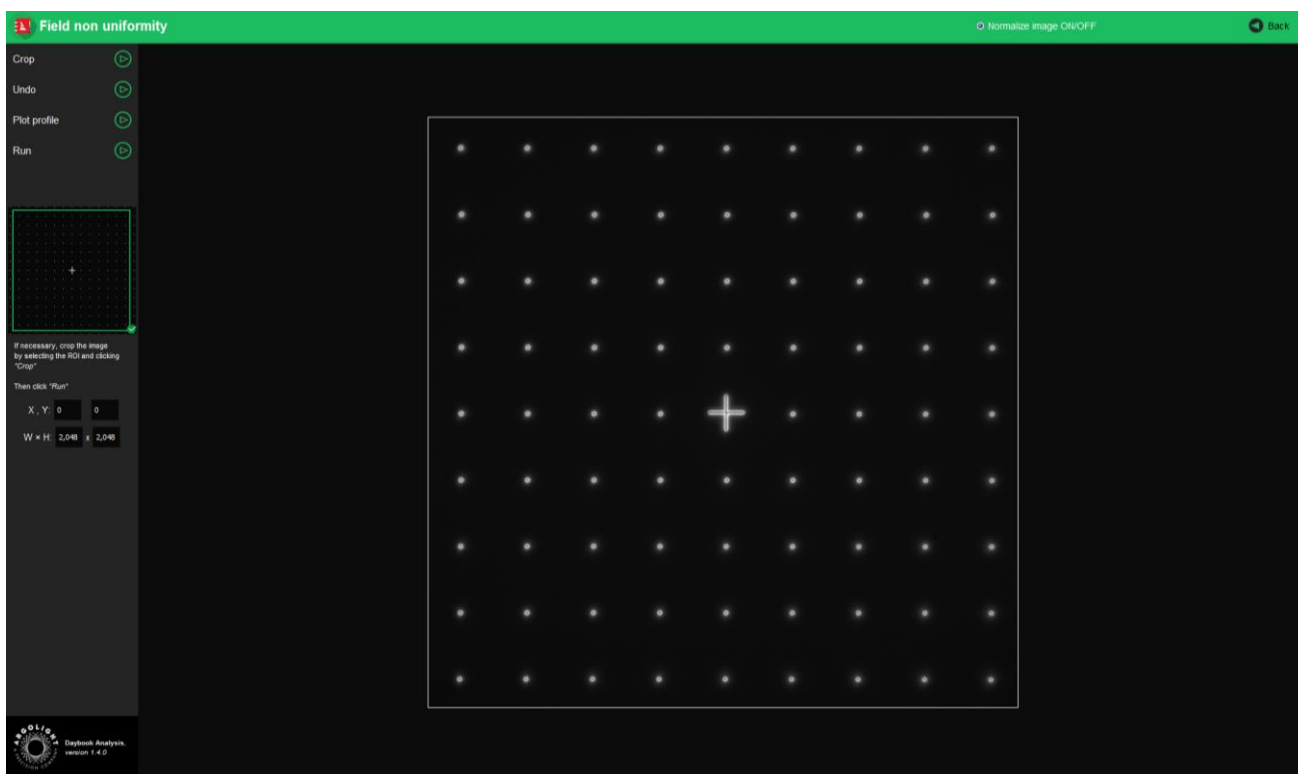

Figure 2: Crop window.
- By default, if one of the rows (or columns) of rings is incomplete or cropped, it will be discarded from the analysis. If needed, select a region of interest (ROI) and click on “Crop” to crop the image (*cf.* Figure 2).